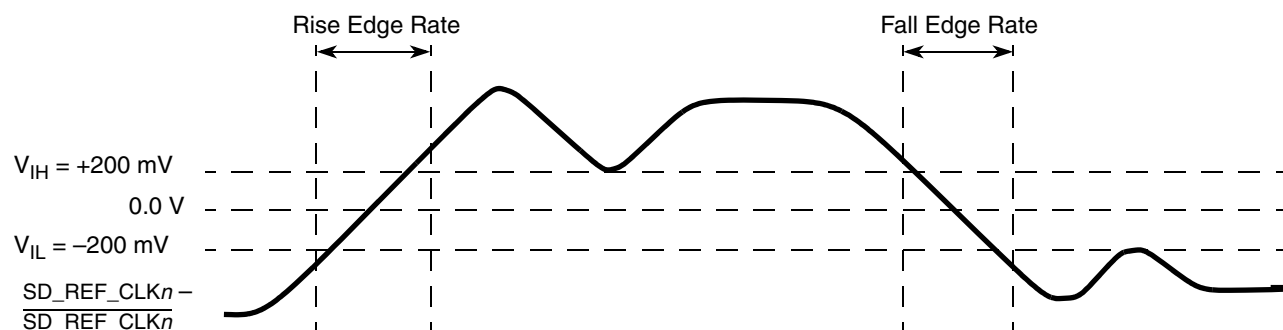

Figure 37. Differential Measurement Points for Rise and Fall Time
only one signal trace curve in a differential waveform. The voltage represented in the differential waveform is not referenced to ground. Refer to Figure 37 as an example for differential waveform.
3. Measured from −200 mV to +200 mV on the differential waveform (derived from SD_REF_CLK $\bar{n}$ minus $\overline{\text{SD_REF_CLK}}_n$). The signal must be monotonic through the measurement region for rise and fall time. The 400 mV measurement window is centered on the differential zero crossing. See Figure 37.